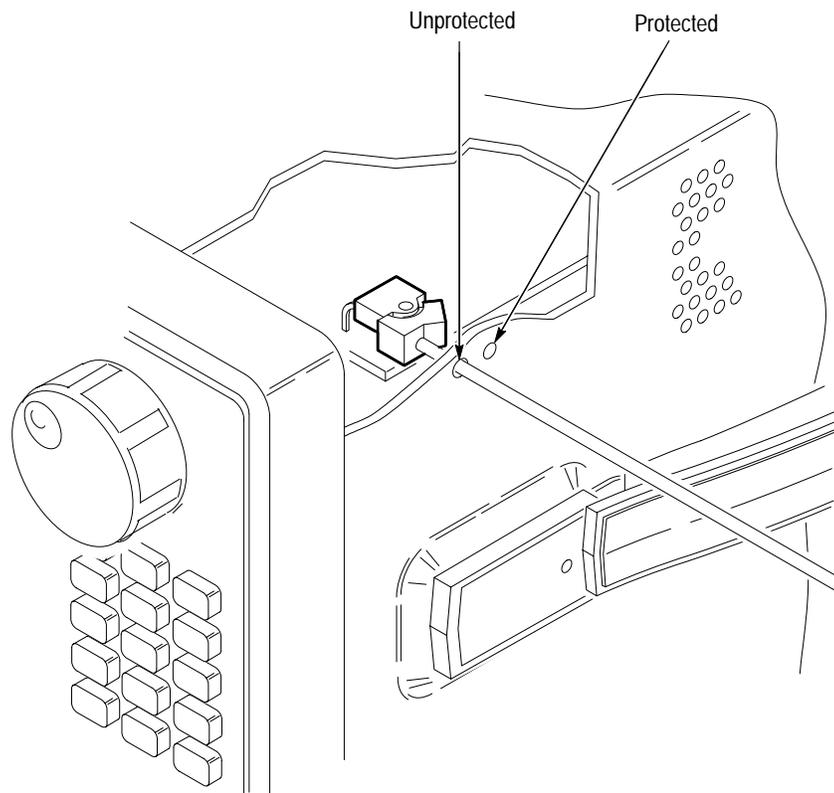

Figure 6–25: Accessing the protection switch
**NOTE.** You must set the Protection switch to the unprotected position before updating the Firmware. Figure 6–25 shows how to set the switch. After loading the Firmware, be sure you set the switch back to the protected position and cycle power.